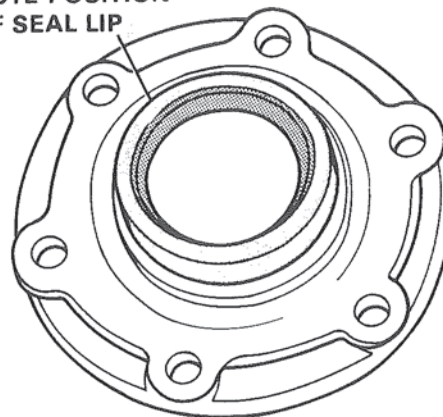

Figure 38. Installing Oil Seal.
2. Place front face of bearing retainer on arbor press table. Apply a suitable sealant to the outside diameter of seal before installing squarely into bore of housing with seal lip positioned as in Figure 38. Caution should be observed to insure that too much sealant is not used.